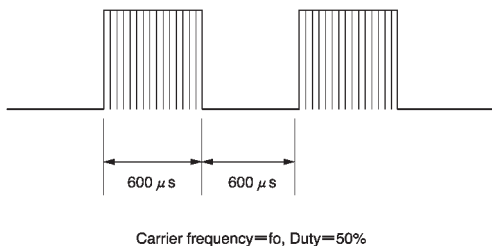
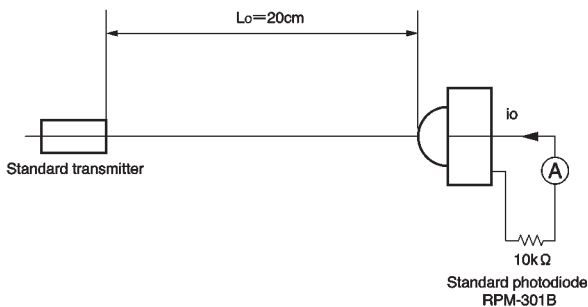
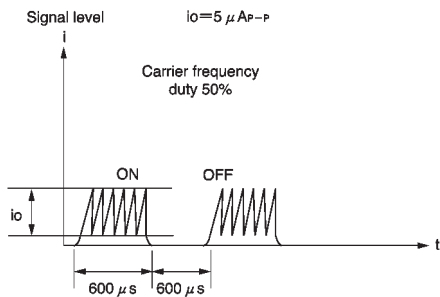

Fig.1 Transmit signal
Fig.2 Measurement of standard transmitter proofreading
Fig.3 Standard photodiode current
*1 The burst wave form mentioned in fig.1 is to be transmitted from standard transmitter (fig.2).
When standard transmitter output the signal at Fig.1 standard photodiode output become $i_o = 5 \mu A_{P-P}$ under the measurement condition Fig.2, Fig.3.
(1) All characteristics of the receiver in this specification are specified by supplying burst wave form with ROHM standard transmitter (Fig.2).